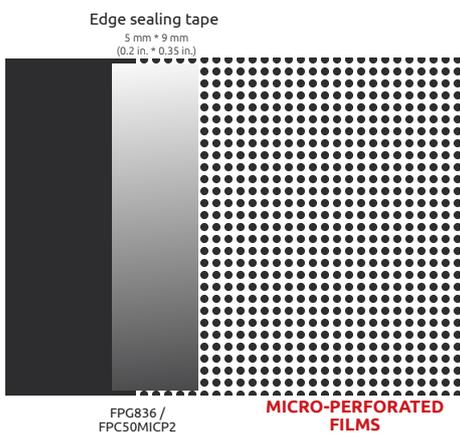

Figure 29
- › Apply the strip by overlapping it by approximately 5 mm (0.2 in.) over the window and 9 mm (0.35 in.) over the micro-perforated film. (FIG. 29)